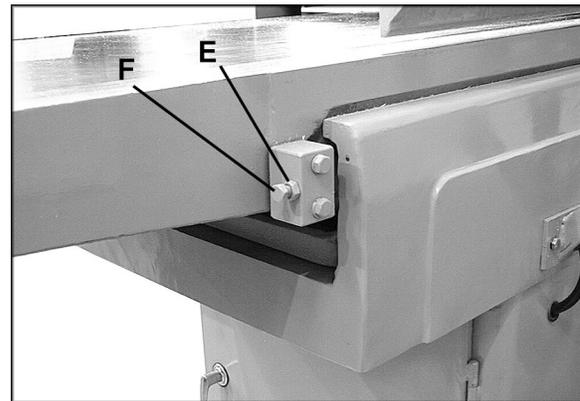

Figure 17
Refer to Figure 17.
A limit block, shown in Figure 17, is mounted to the rear of each table. It sets the maximum height the tables can be raised and is pre-set at the factory. If adjustment is ever needed, loosen the hex nut (E) and turn the screw (F) as needed. Retighten hex nut (E).